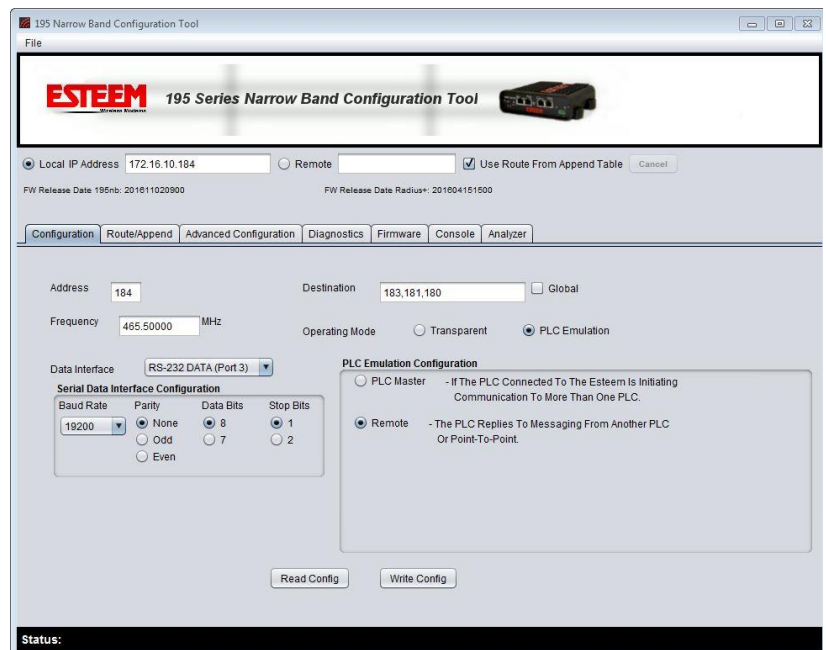

Figure 17: Remote Site PLC Emulation Configuration
3. Set the destination address as the path to the Master site (183,181,180). See Figure 17.